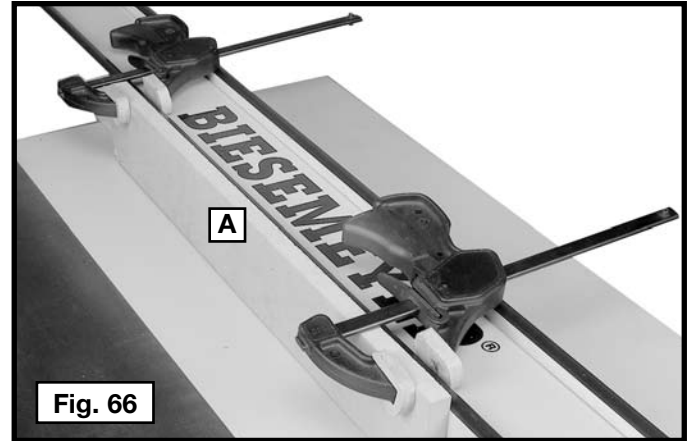

Fig. 66
Add a wood facing (A) Fig. 66 to one or both sides of the rip fence when you perform special operations (moulding cutterhead, etc.). Depending on the fence, attach the wood facing or the fence either with wood screws through holes drilled in the fence, or with two clamps. For most work, 3/4" (19 mm) stock is suitable, although an occasional job may require 1" (25.4 mm) facing.